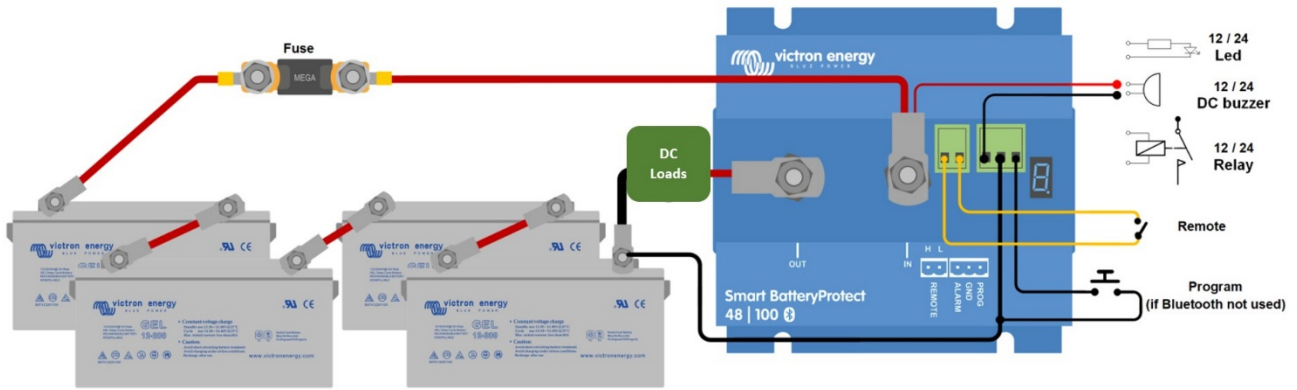

Figure 1 Connection diagram of the SBP 48|100 (use the remote input for system on/off functionality)
- A remote on-off switch can be connected between Remote H and Remote L (see figure 1). Alternatively, terminal H can be switched high (to battery positive), or terminal L can be switched low (to battery negative).
- A buzzer, LED or relay can be connected between the alarm output terminal and the battery positive (see figure 1). Maximum load on the alarm output: 50 mA (short circuit proof).
- Een zoemer, LED of relais kan verbonden worden tussen de alarmuitvoerklem en de batterij positief (zie afbeelding 1). Maximale belasting op de alarmuitgang: 50 mA (kortsluitvast)